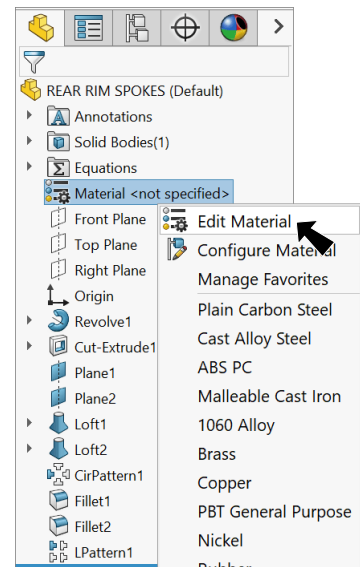

Fig. 51
Step 1. Right click **Material**  in the Feature Manager and click **Edit Material**, Fig. 51.